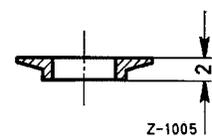

Figure 01-1/8
Note: The sealing ring (4) between nozzle holder and pre-combustion chamber (see Figure 01-1/9) was modified to eliminate knocking during take-off and driving. The new sealing ring Part No. 636 017 01 20 (Figure 01-1/8) with a total height of 2 mm is 2 mm lower than the 1st version according to Part No. 312 017 04 20 (Figure 01-1/7) and is standard now in all types of engine models OM 621 and OM 636.